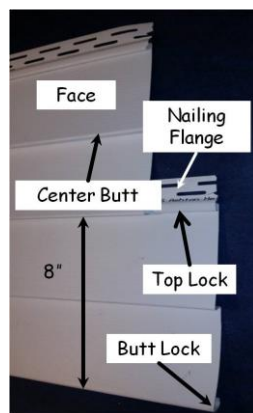

Figure 11-12. Siding Nomenclature.
3. Measure the distance from the top of the nail flange to the bottom of the top lock (see Figure 11-12). This is normally 1¼” to 1⅜”. Add this measurement to 8” and 40” to obtain the height of the lower and upper quality lines in Step 4, below.
3. As shown in Figure 11-12, the butt lock of each course locks into the top lock of the course below.
4. On the 8s: The visible portion of each siding course is 8" high (see Figure 11-12). For each new course, snap the butt lock onto the top lock of the previous course along the entire piece. Nail the ends and middle, then measure up from the **BOTTOM** of the first course to the **BOTTOM** of the course being installed. Each measurement should be a multiple of 8 (e.g. 8", 16", 24", 32"). At each nail position, before nailing, check the measurement and adjust up or down to an even multiple of 8, and finish nailing the entire piece. Recheck as necessary and adjust the position of the nailing flange and re-nail, if required. Small adjustments can be made by tapping the nail head up or down as required. When installing the first and fifth courses, be sure the top of the siding (the nail flange) just touches the quality line previously snapped (see Section 11.1.6.4) on the wall.